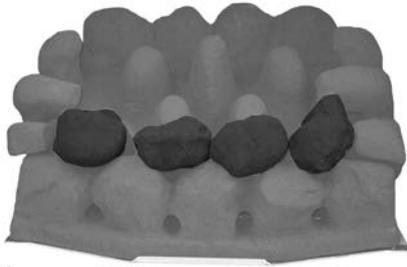

Fig. 24
5. Pick out the smallest two coals and lay to one side, lay the first row of four loose coals on top of the front coal. Ensure the back of the coals are resting on the coal bed and there are even gaps all round (Fig. 24).